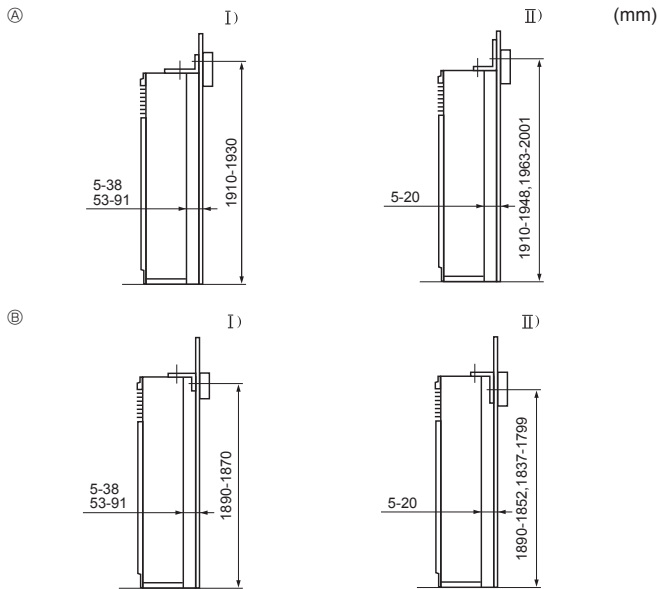

Fig. 3-3
① Tip-over prevention bracket
The tip-over prevention bracket ① is set on the top surface of the unit. Remove the tapping screws ②, and then reinstall the bracket, as shown in the illustration. For the proper installation distances, see Fig. 3-3.
### 3.3. Mounting the tip-over prevention bracket (Fig. 3-3)